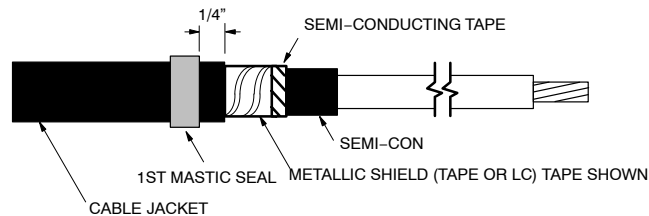

FIGURE 2A
2. Select one of the two mastic strips from the kit and remove white release liners. Using light tension apply a single wrap of mastic around the cable jacket 1/4" from the cut edge. Cut off excess mastic. See Figure 2A.